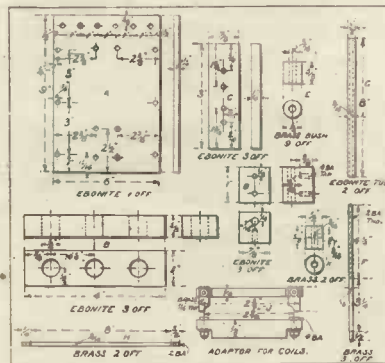

Fig. 3.—Constructional details of the various parts of the coil holder.
1. The baseboard (A, Fig. 3) could be made of hard wood with a strip of ebonite on top for terminals.
2. The brass bearing bushes (E, Fig. 3) of the bearing bracket (B, Fig. 3) could be omitted and 3/16in. holes drilled in the ebonite to take the spindle. This detail could also be made of hard wood.
In Fig. 3, showing details, is also drawn an adaptor (J) for use with this holder, and each coil